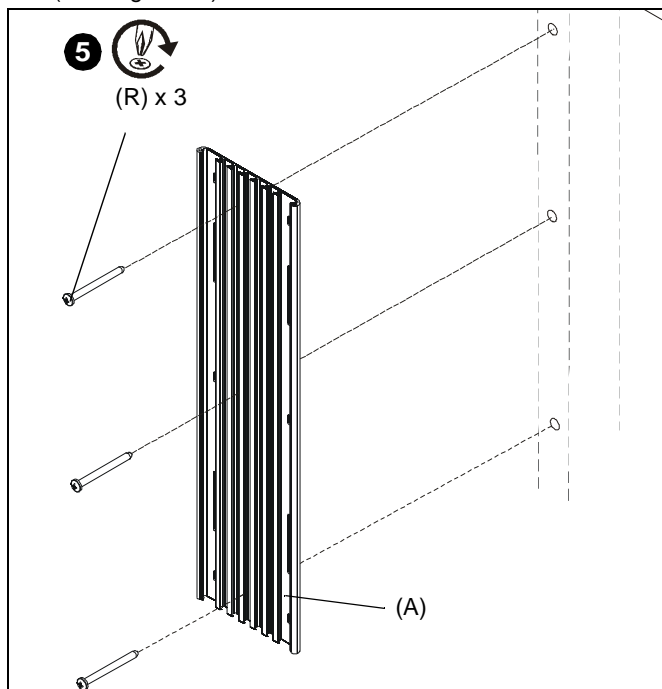

Figure 16
5. Install three #12 x 2 1/2" round pan wood screws (R) through small center bracket holes and into drilled holes. (See Figure 16)